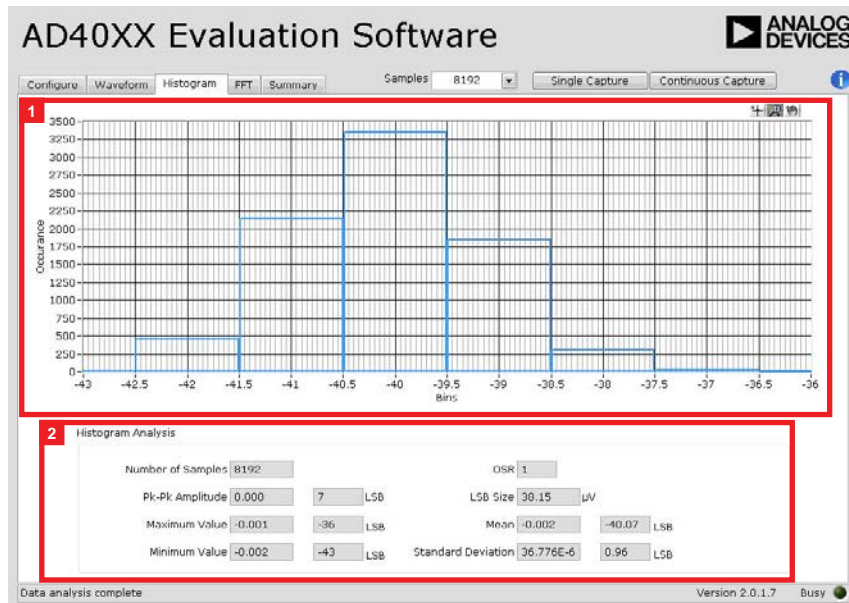

Figure 20. Histogram Tab View
Figure 20 shows the **Histogram** tab view. The **Histogram** tab is useful for performing statistical analysis of the AD4000 family device conversion results, especially when measuring dc signals. The histogram graph shows the distribution of the conversion results as well as various statistical analysis items. The **Histogram** tab contains the following controls and indicators:
- **Histogram graph** (Label 1 in Figure 20): displays histogram of the most recently captured or loaded conversion results. The scale and range of the histogram graph can be set by double-clicking on the minimum and maximum axis values and entering the desired values. The histogram graph also includes viewing tools, described in Table 5.
- **Histogram Analysis** (Label 2 in Figure 20): shows the following analysis items for the currently displayed data.